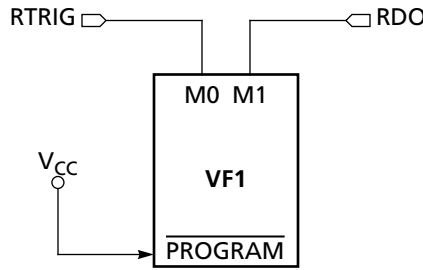
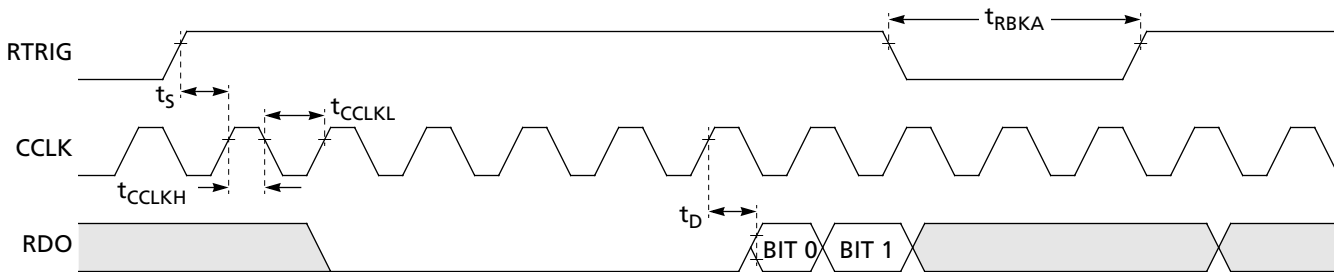

Figure 16. Non-JTAG
Figure 17. Non-JTAG Mode Readback Timing Values
- ◆ **Non-JTAG readback.** Configuration data is enabled with the RTRIG pin and read from the RDO pin (Figure 16. Figure 17 and Table 10 show readback timing information. This readback method is enabled only after non-JTAG configuration.